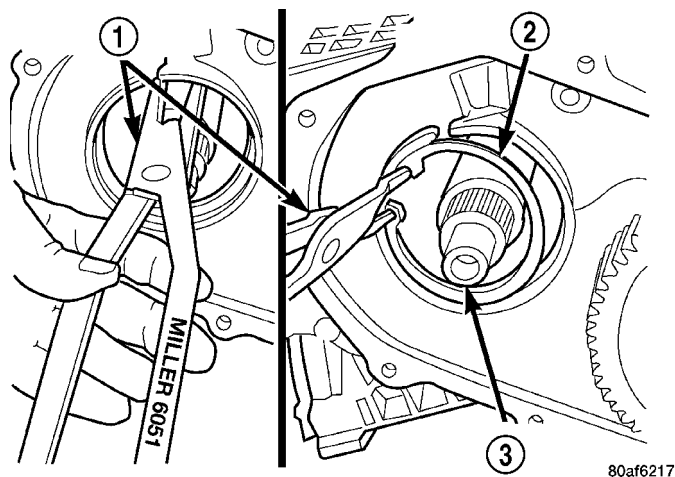

Fig. 59 Remove Transfer Shaft Bearing Snap Ring
(43) Using Tool 6051, remove transfer shaft bearing snap ring (Fig. 59).